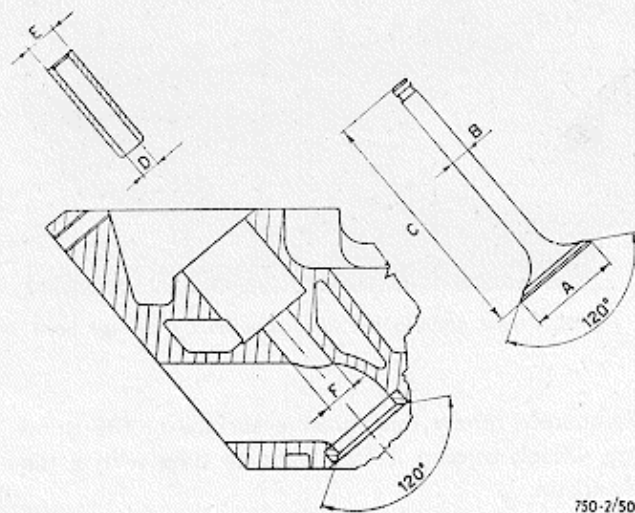
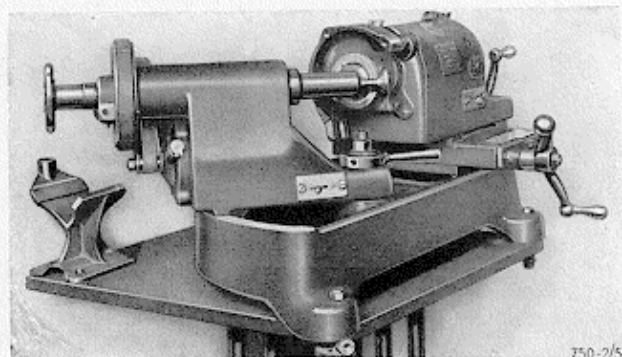

Fig. 50 - Sizes for checking the valves, valve guides and their seats
Fig. 51 - Grinding the valve seats
guide (when mounted in the cylinder-head) and the valve stem must not exceed the wear limits shown in fig. 50; if that is not the case, replace as necessary.
Use a suitable grinding machine as shown in fig. 51 ; the inlet and exhaust valve angles of inclination are as shown in fig. 50.
- 2) Insert the valve guides (fig. 56) after first heating the cylinder-head in an oven to 100° C or by immersing it in boiling water. If after these operations the valve guide hole diameter should be found to have decreased below the values shown in fig. 50, enlarge it by means of a hand reamer.